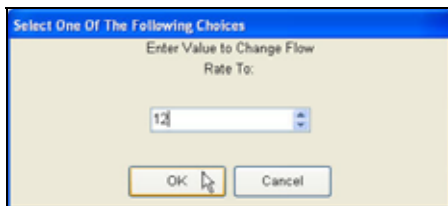

Figure 7.1.6
8. Select **Reset Flow**. Enter a new flow value. Click **OK** (Figure 7.1.6).